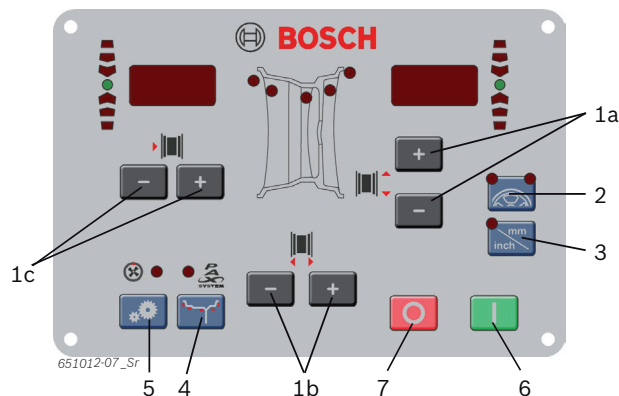

Fig. 6: Buttons on the control/display panel
2. Select the rim distance determined by way of the <-> or <+> rim distance key (Fig. 6, Item 1).
4. Select the measured rim width using the <-> or <+> button for rim width (Fig. 6, Item 1).
6. Select the rim diameter determined by way of the <-> or <+> rim diameter key (Fig. 6, Item 1).
2. Enter the actual number of spokes using the <-> or <+> button (Fig. 6, Item 1).